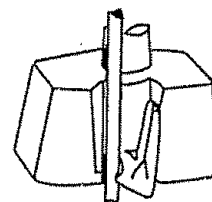

FIG. 6
4. The motor cord, which goes from the switch box to the bottom of the unit, is attached in two (2) locations behind the dispenser at top and bottom. The upper part of the motor cord is snapped into place alongside the upper cord hook on the dispenser top (Fig 6).